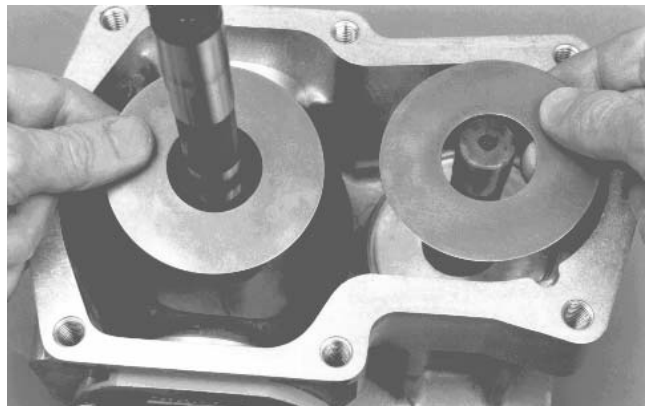

Figure 45
9. Use O-ring pick or wire to remove thrust plates from swashplate and housing (Fig. 45).